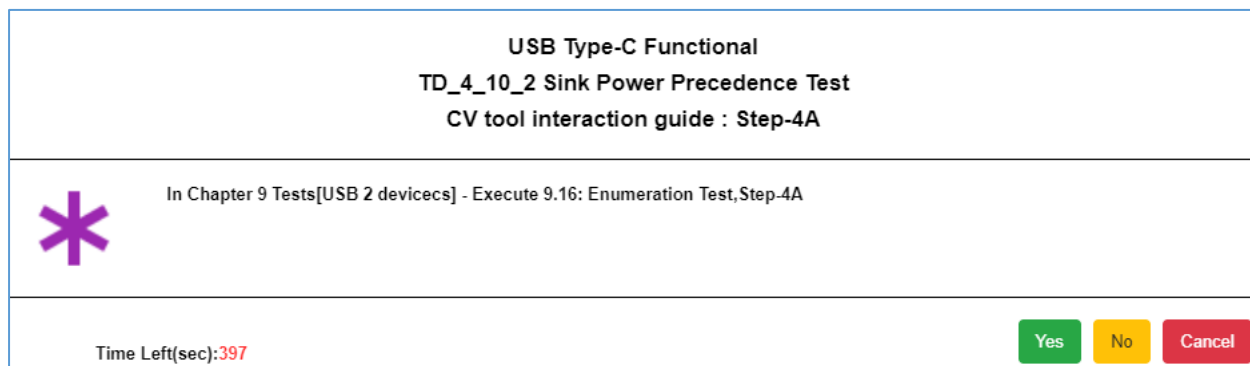

FIGURE 7.16: USER PROMPT TO CONFIRM CTS “9.16 ENUMERATION TEST” STATUS IN CV TOOL
5. In the following pop-up message (Figure 7.16 below), select “Yes” if the test passes or “No” if fails. Select “Cancel” if the CV tool is not used to run the enumeration test.